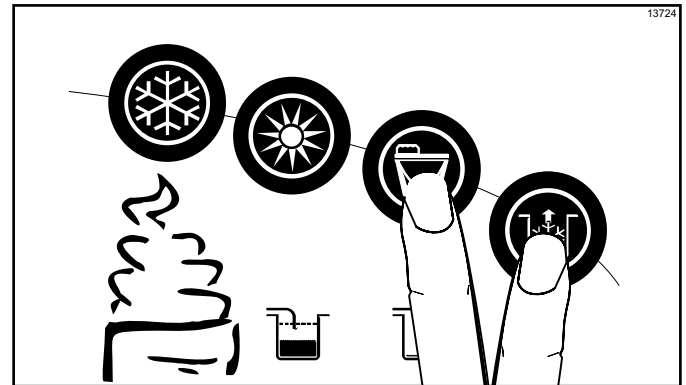

Figure 6-50
3. When the flow of product stops, press the Wash and Pump keys  , canceling the Wash and Pump modes. Close the draw valve. Properly dispose of the mix. (See Figure 6-50.)